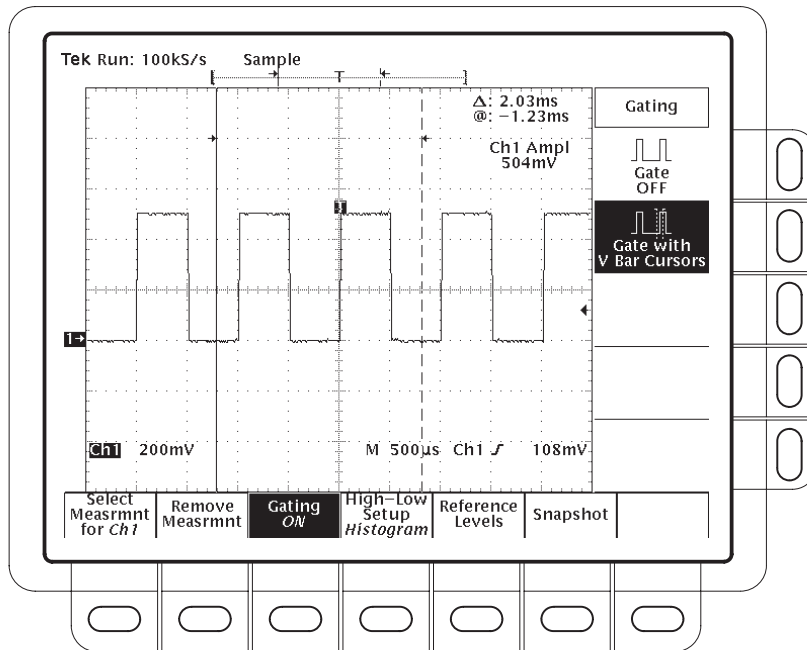

Figure 3-40: Measure Menu — Gating
1. Press **MEASURE** → **Gating** (main) → **Gate with V Bar Cursors** (side) (see Figure 3-40).